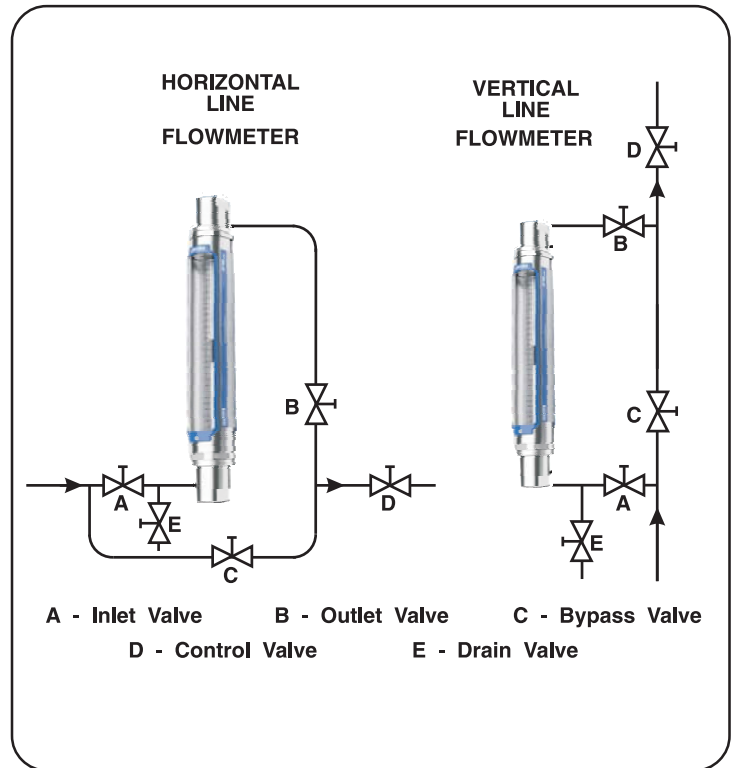

Figure 1 Typical Flowmeter Installation
Installation (See Figure 1)
- Installation of a bypass piping arrangement is recommended, see Figure 1, Typical Flowmeter Installations. Bypass piping permits the meter to be isolated from the flow for servicing and cleaning.